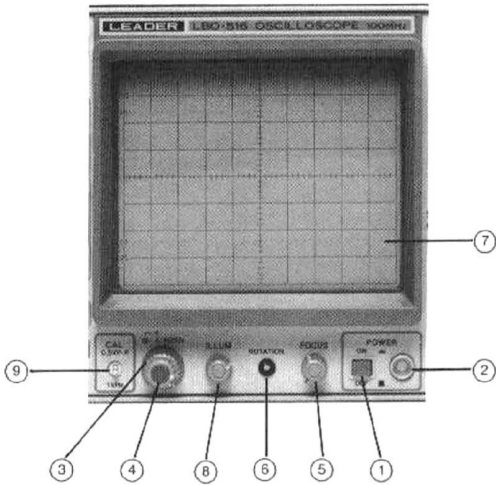

Figure 2-1.
Before turning on this instrument, familiarize yourself with the controls, connectors, indicators, and other features described in this section. The descriptions given below are keyed to the items called out in Figures 2-1 to 2-4.
Refer to Figure 2-1 for reference (1) to (9).